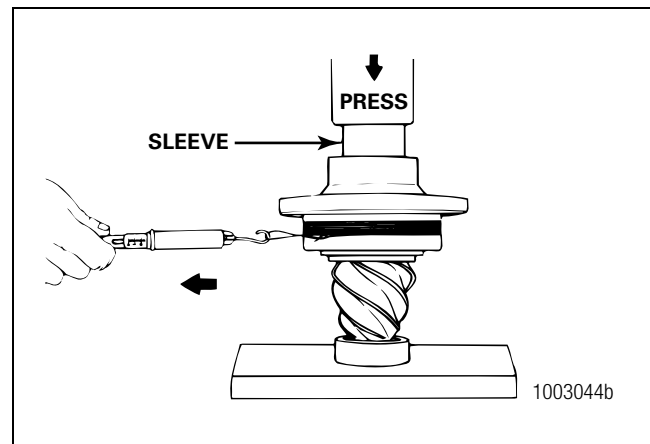

Figure 5.13
2. Install a sleeve of the correct size against the inner race of the outer bearing. Figure 5.13.
- Pull the cord on a horizontal line. As the bearing cage rotates, read the value indicated on the scale. Record the reading. Figure 5.13.